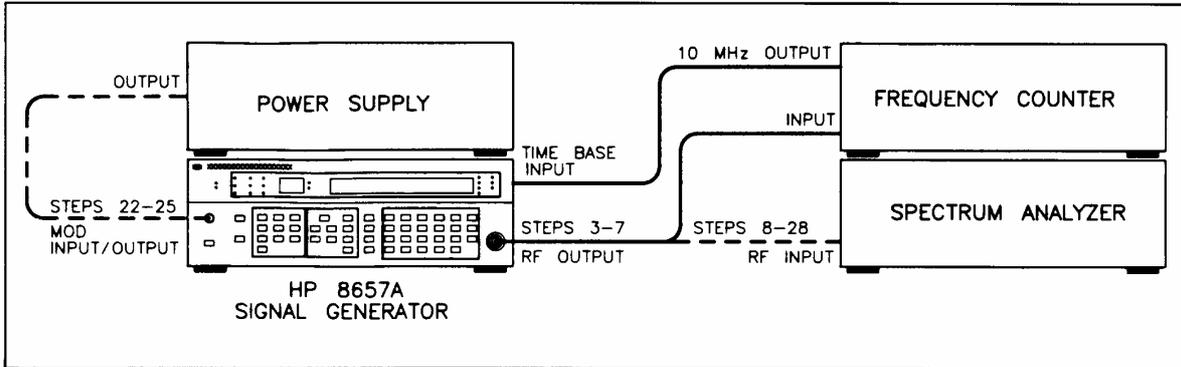

Figure 3-3. Test Setup for Basic Functional Checks
3. Connect the RF OUTPUT of the Signal Generator to the input of the frequency counter, and the 10 MHz reference output from the frequency counter to the TIME BASE INPUT located at the rear of the Signal Generator as shown in Figure 3-3.
8. Connect the RF OUTPUT of the Signal Generator to the input of the spectrum analyzer as shown in Figure 3-3.
24. Connect a power supply to the MODulation INPUT/OUTPUT Connector of the Signal Generator as shown in Figure 3-3. Set the power supply for a +1 Vdc output and switch the voltage line on. Notice the LO EXT annunciator will remain on. The carrier frequency displayed on the Spectrum Analyzer should move three divisions to the right. The carrier frequency is offset by 60 kHz.